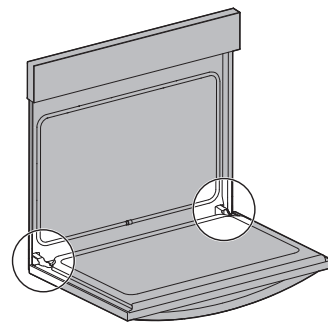

Figure 21: Door hinge location
1. Open oven door completely, horizontal with floor (Figure 21).
3. Fully open the oven door, horizontal with floor (Figure 21).